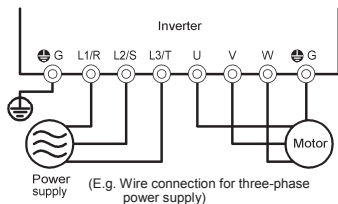

Figure 4.1 Connection of Main Circuit Terminals
- (1) Check the wiring to the power input terminals (L1/R, L2/S and L3/T) and inverter output terminals (U, V and W). Also check that the grounding wires are connected to the grounding terminals correctly. See Figure 4.1.